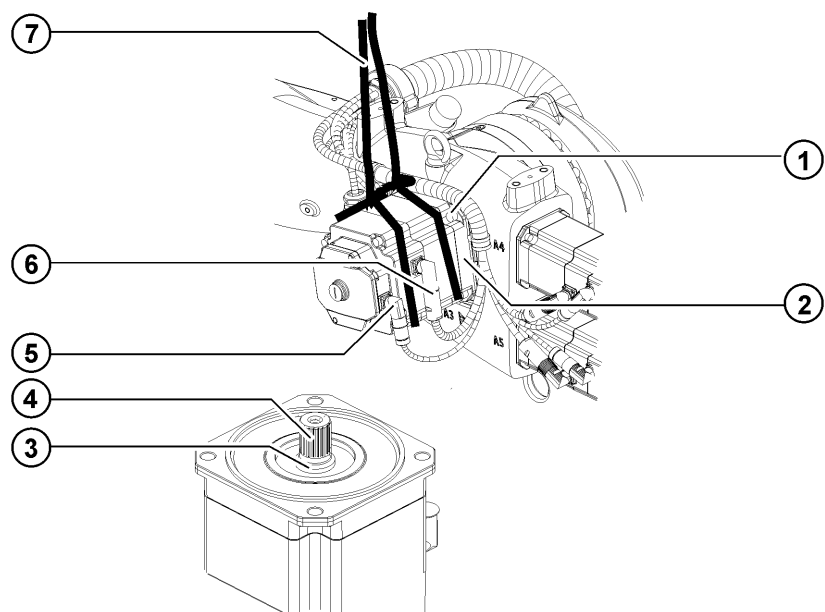

Fig. 11-8: Installing motor A3
2. Clean the toothing of motor A3 and gear unit before installation and apply a thin but continuous coat of Microlube GL 261 grease (>>> Fig. 11-8).